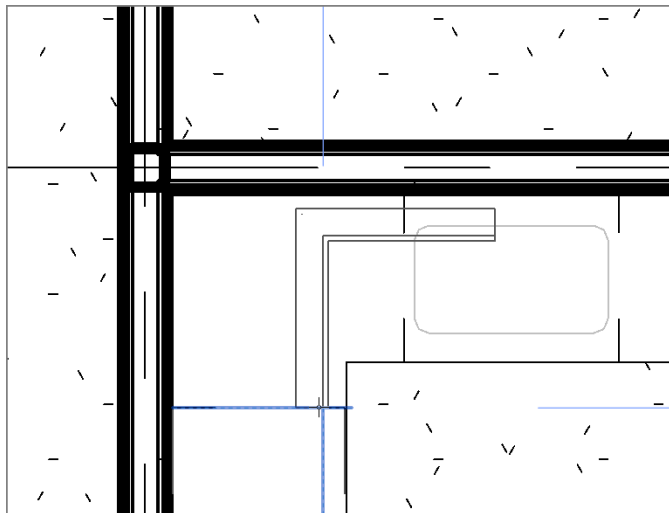

FIGURE 9.63: Adding the filler
12. Place it in the model on the side of the base cabinet, as shown in Figure 9.63.